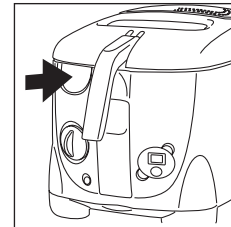

fig. 1
- Open lid by pressing button (fig.1).